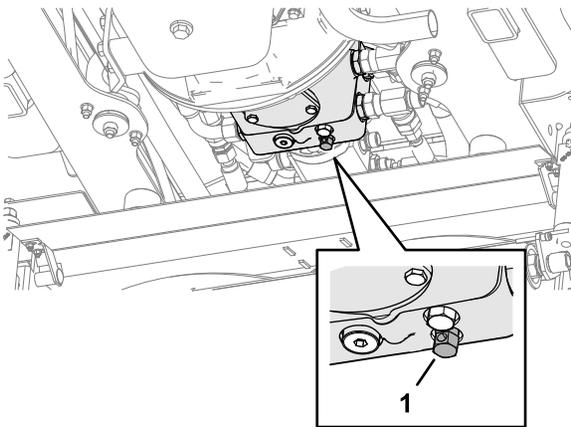

Figure 37
1. Release the hydraulic service braking system by turning the bypass valve, located under the transmission pump, counterclockwise, a maximum of 3 turns (Figure 37).